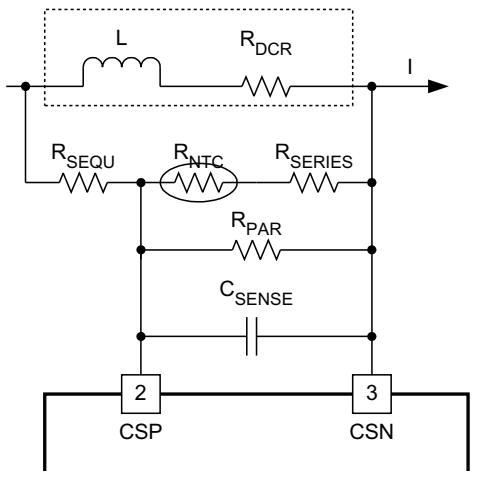

Figure 10. Typical DCR Sensing Circuit
Step Five: Design the thermal compensation network. In most designs, NTC thermistors are used to compensate thermal variations in the resistance of the inductor winding. This winding is generally copper, and so has a resistance coefficient of 3900 PPM/°C. NTC thermistors, on the other hand, have very non-linear characteristics and need two or three resistors to linearize them over the range of interest. The typical DCR circuit is shown in Figure 10.
- all of the parameters are defined in Figure 10
- R_{FO} is the series/parallel combination of the other four discrete resistors (11)